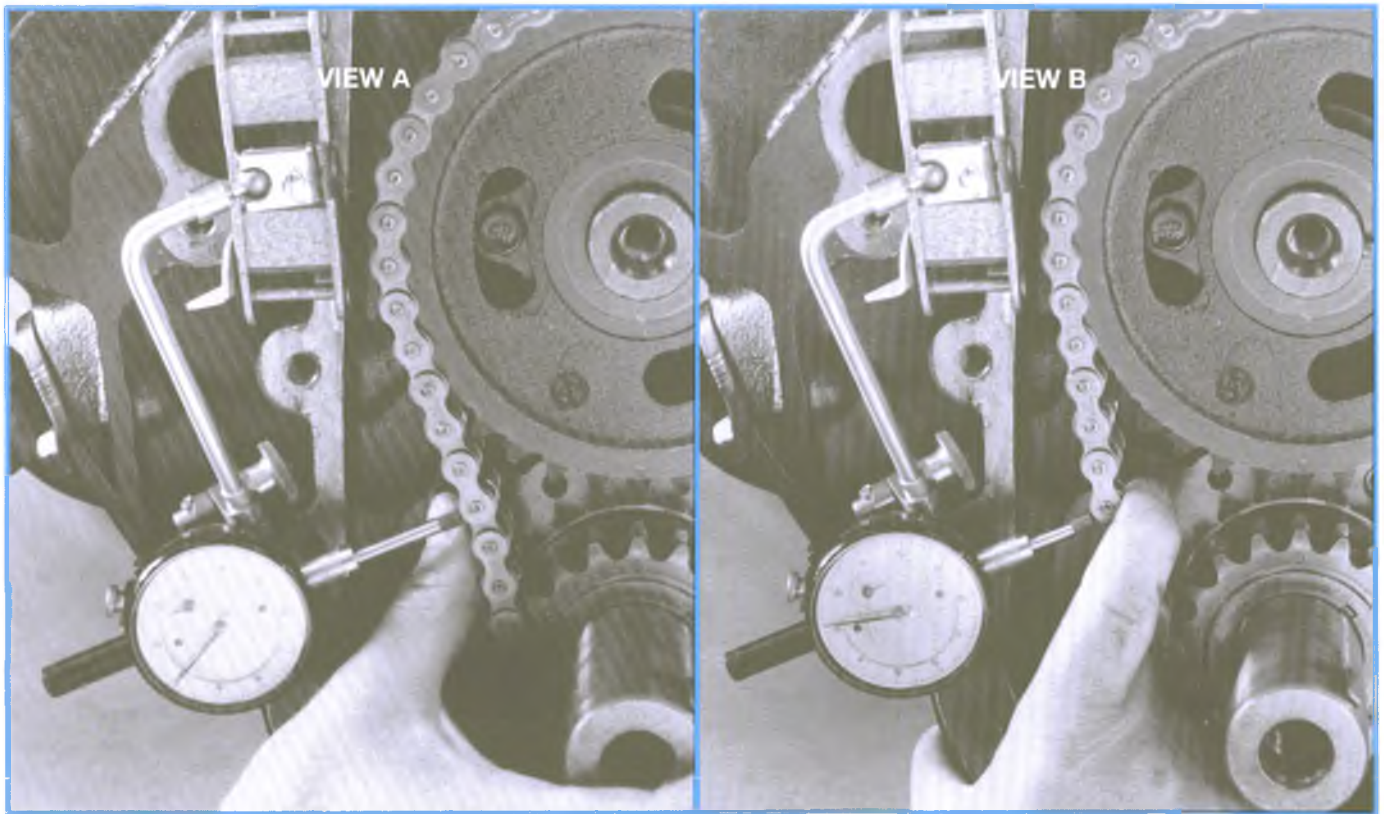

Figure 2-42, Timing Chain Wear Check
- At the location of the dial indicator plunger contact, move the timing chain toward the center of the engine and align the dial indicator needle with zero (see Figure 2-42, view A).
- Move the timing chain away from the center of the engine and observe the total dial indicator needle travel (see Figure 2-42, view B):